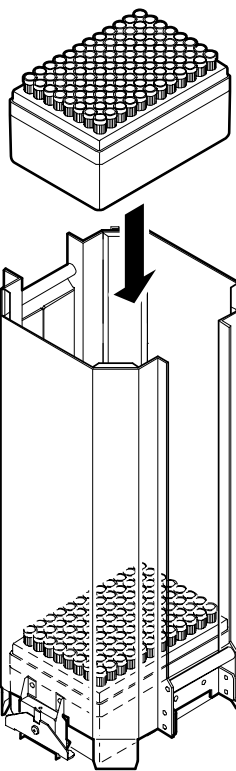

Fig. 7.3-2
- (2) Using the “Reagent/Disposable tips inventory” screen for reference, set the tip racks in the stacker (Fig. 7.3-2). A maximum of 5 tip racks can be loaded in the stacker.